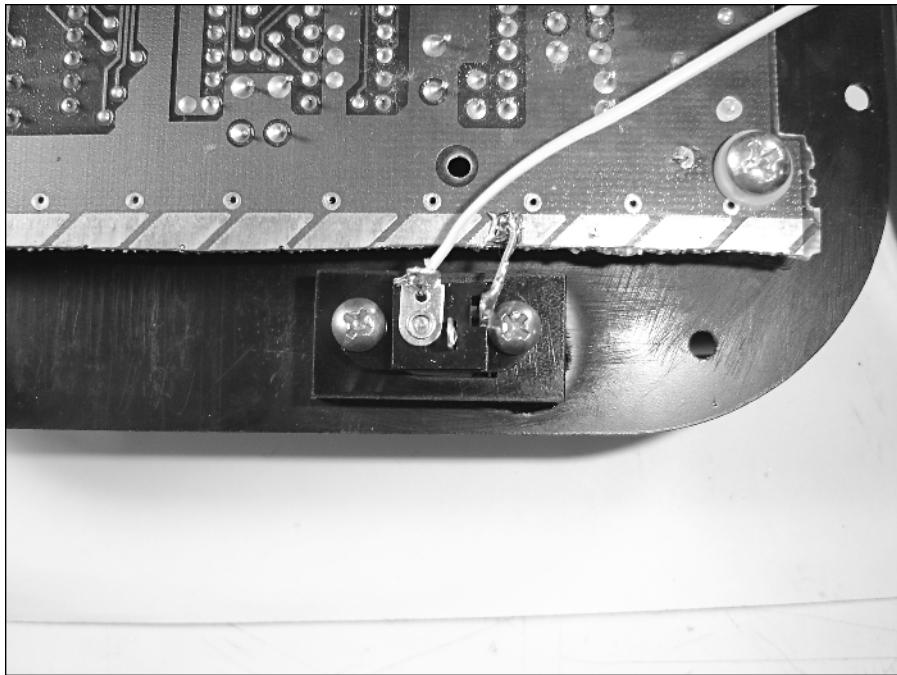

FIGURE 8-36: Where to place the battery jack riser.
2. Grab the rear half of the case that contains the cartridge connector and the NES board. Take the *battery jack riser* and superglue it over the same-shaped hole in the center match plate as shown in Figure 8-36. You can then attach the *size K coaxial power jack* into it using the supplied screws (i.e., the screws that came with the jack).